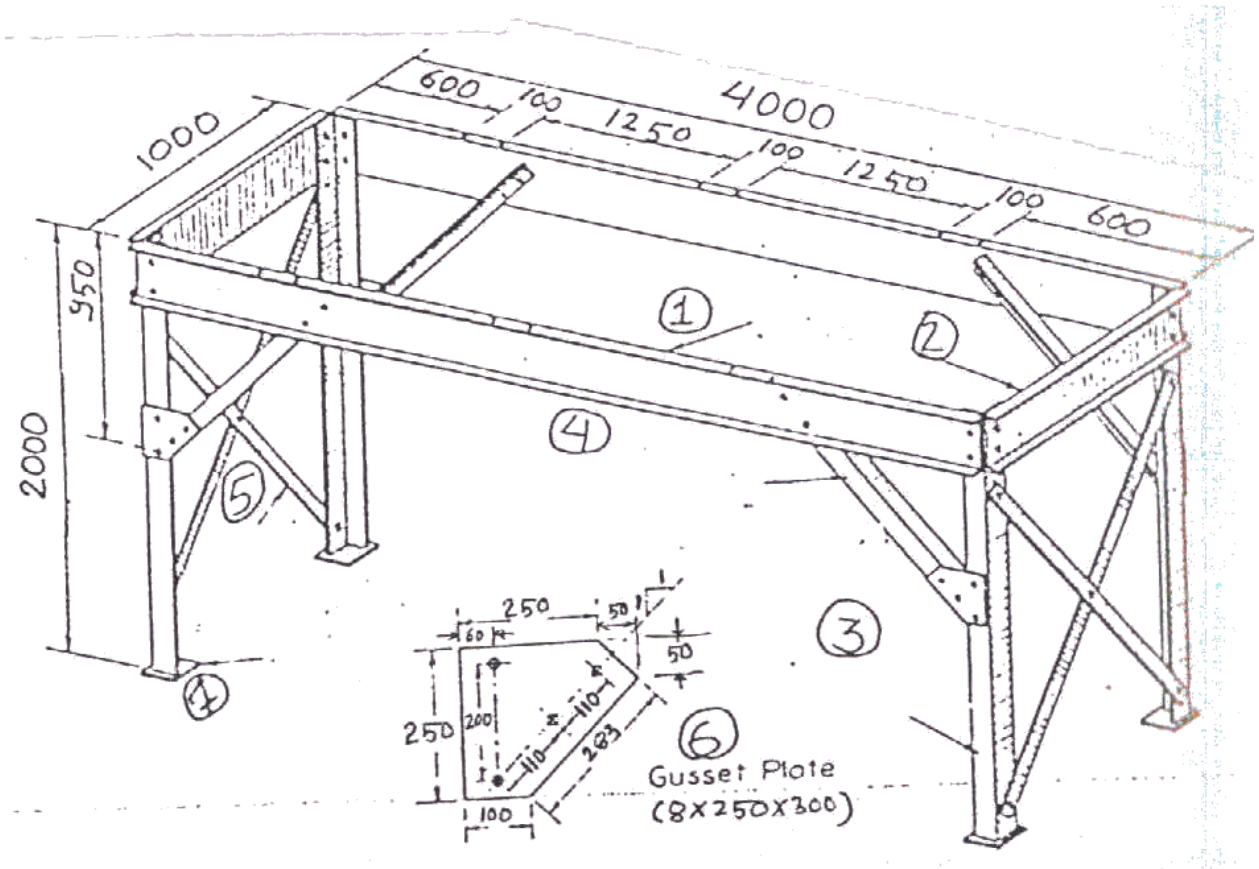

FIGURE T12.1
1. DRAW THE PART DRAWING FOR COMPONENT NO. 1, 3, 4, AND 6 OF THE FOLLOWING STRUCTURE SHOWN IN *FIGURE T12.1* WITH DETAIL DIMENSIONS.